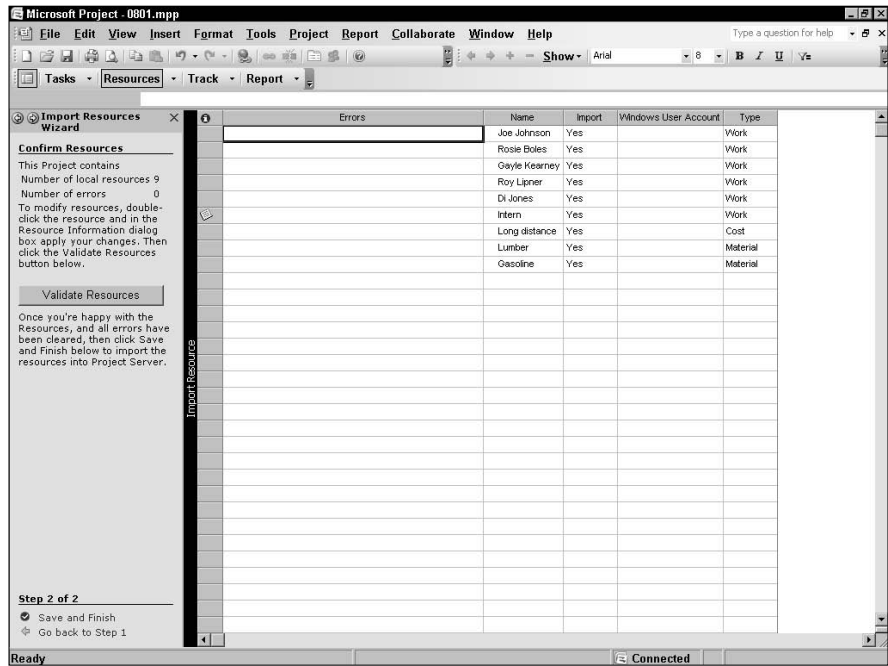

Figure 2-7: Identify resources that you want to store in the Enterprise Resource Pool.
- 6. Identify the resources that you want to upload to the Enterprise Resource Pool by choosing Yes in the Import column (see Figure 2-7).**